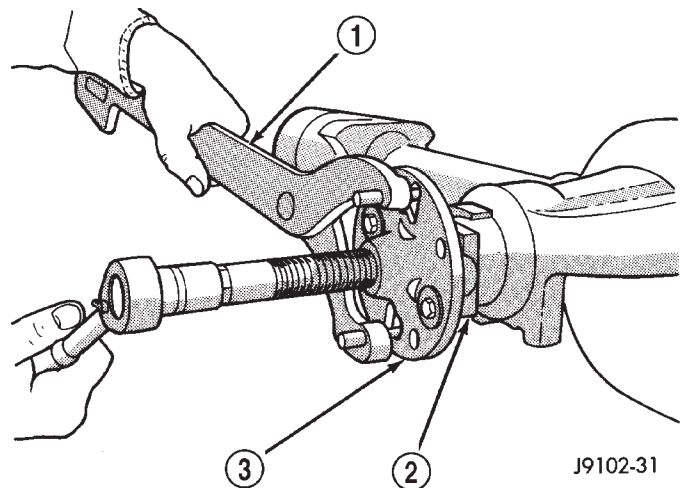

Fig. 7 Pinion Yoke Removal
- (1) Raise and support the vehicle.
- (2) Remove wheel and tire assemblies.
- (3) Remove the brake drums. Refer to Group 5, Brakes, for proper procedures.
- (4) Mark the propeller shaft and pinion yoke for installation alignment reference.
- (5) Remove the propeller shaft from the yoke.
- (6) Rotate the pinion gear three or four times.
- (7) Measure the amount of torque necessary to rotate the pinion gear with a (in. lbs.) dial-type torque wrench. Record the torque reading for installation reference.
- (8) Using Holder 6958 to hold the pinion yoke, remove the pinion nut and washer.
- (9) Use Remover C-452 and Wrench C-3281 to remove the pinion yoke (Fig. 7).